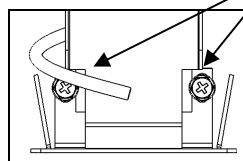

Figure 9
10. Use provided screws (**4050202.001** (2)) to fasten the **K-Cup adapter** to the tray (See Fig. 9)
11. From the base of the tray to the top of the K-Cup should all be at the same height (See Fig. 9)